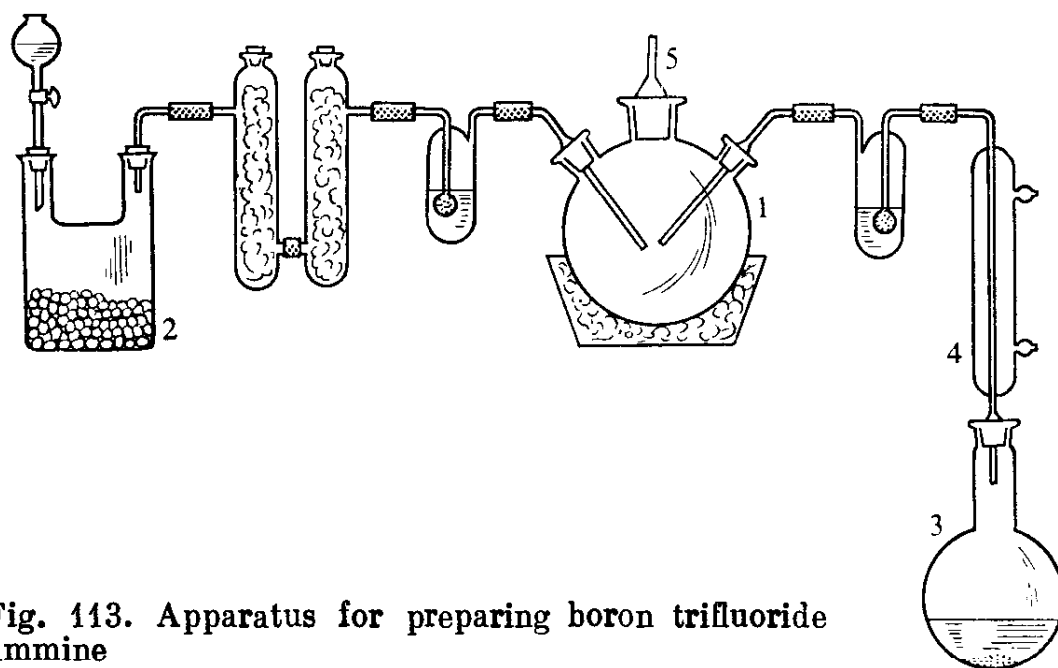

Fig. 113. Apparatus for preparing boron trifluoride ammine
3. Preparation of Boron Trifluoride Ammine. Assemble an apparatus as shown in Fig. 113. Place flask 1 into a bath with ice. To produce ammonia, spill solid granulated sodium or potassium hydroxide into bottle 2. Pour a concentrated ammonia solution into the dropping funnel.